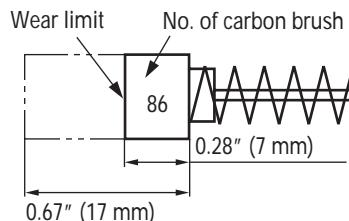

Fig. 9
**4. Inspecting the carbon brushes (Fig. 9)**
The Motor employs carbon brushes which are consumable parts. When they become worn to or near the "wear limit", it results in motor trouble. When an auto-stop carbon brush is equipped, the motor will stop automatically. At that time, replace both carbon brushes with new ones which have the same carbon brush Numbers shown in the figure 9. In addition, always keep carbon brushes clean and ensure that they slide freely within the brush holders.
Use metabo HPT carbon brush No. 86 indicated in Fig. 9.